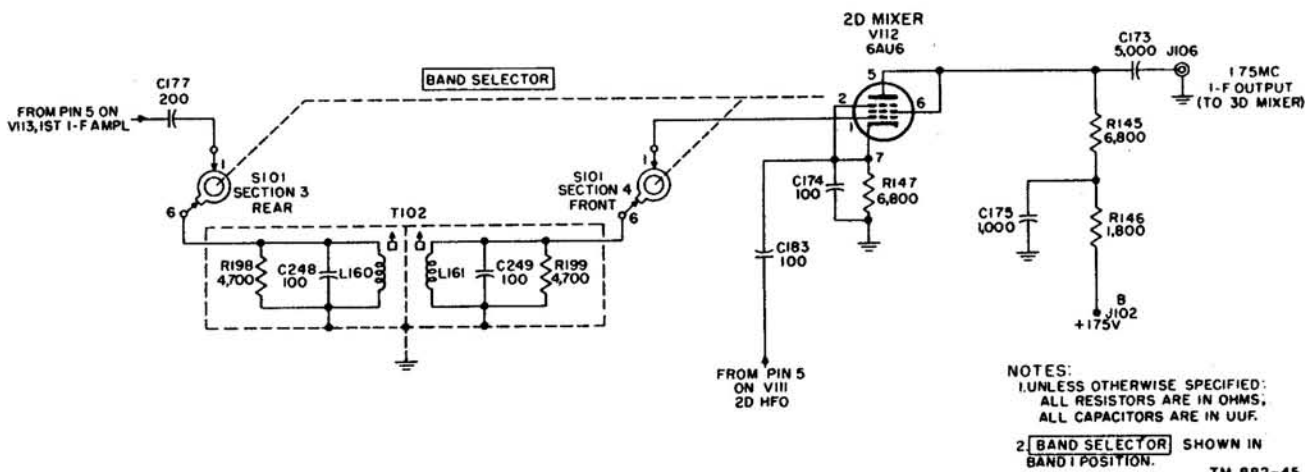

Figure 30. Second mixer.
### 63. Second Hf Oscillator and Second Mixer (figs. 30, 31, and 32)
d. Second Mixer Operation and Output Circuit (fig. 30). The output of the crystal circuit is ap-